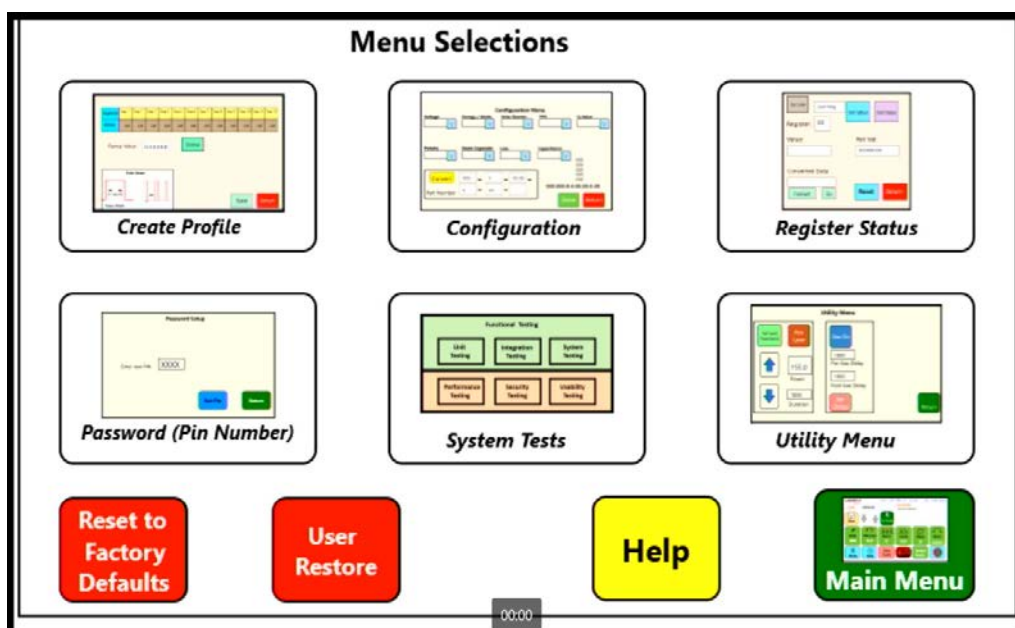

Figure 4
- 2.** Touch Password (Pin Number) **(Figure 4)**
- 11.** Now press (Done) **(Figure 4)**
- 12.** Press Main Menu Button **(Figure 4)**
2. Touch Password (Pin Number) **(Figure 4)**
9. Press Main Menu Button **(Figure 4)**